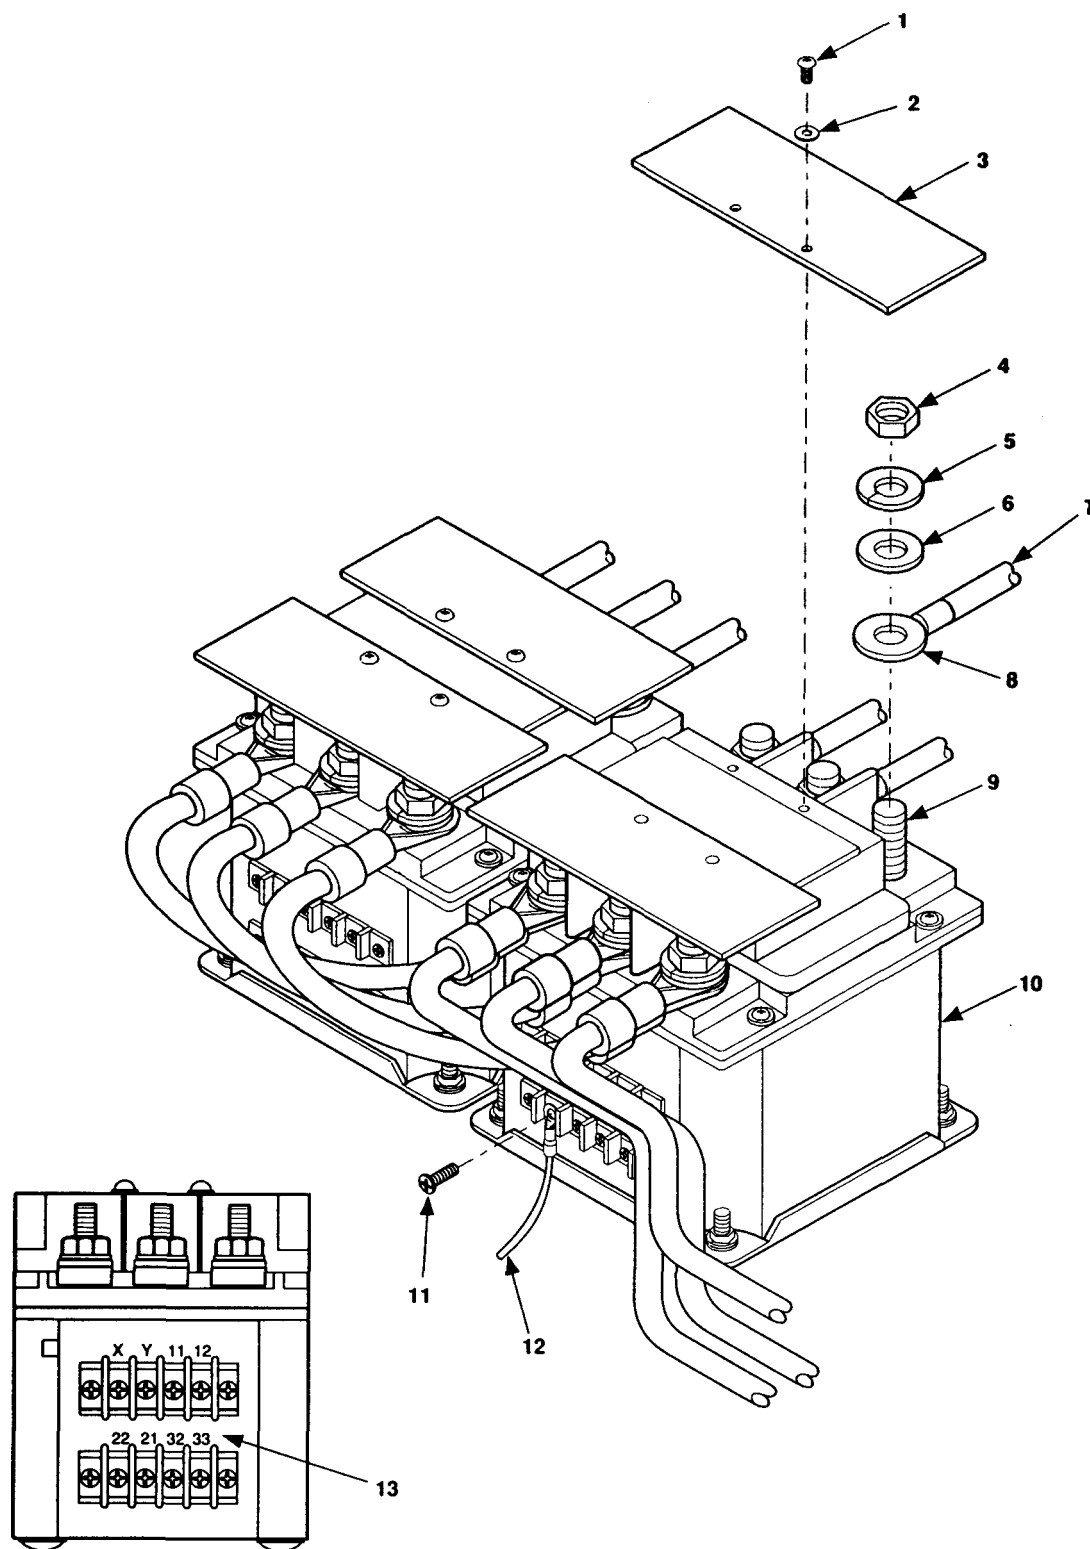

Figure 5-11. Disconnect Switch Box Harness W9 From Contactor.
1. Remove two screws (1, figure 5-11), lock washers (2), and contractor shields (3) that cover contactor terminals A2, B2, and C2 of contactor K1 and K2, and terminal A1 of contactor K2.
8. Refer to table 5-1 and install W9 wires (7, figure 5-11), flat washers (6), lock washers (5), and nuts (4) on contactor terminals (9).
9. Refer to table 5-1 and install W9 leads (12) on terminals (13) using screws (11).
10. Install contactor shield (3), two lock washers (2), and screws (1) over contactor terminals A2, B2, and C2.